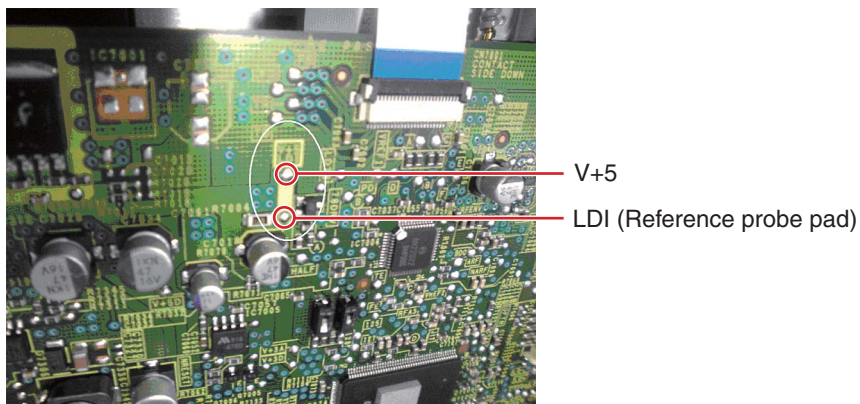

Fig. 1 SRV Assy
2. With the LD OFF, apply the probes of a tester to the reference probe pad. (V+5 and LDI, see Fig. 1.)